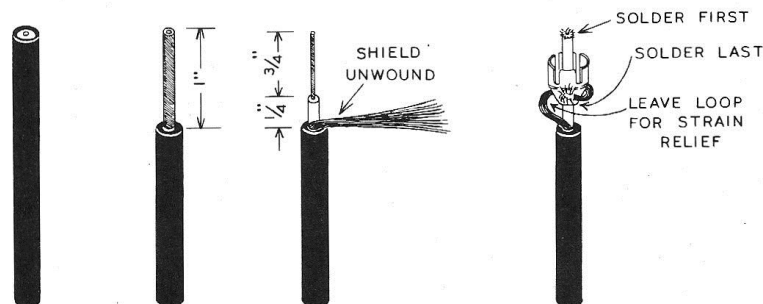

Figure 19
- () 186. Prepare a length of shielded cable as shown in Figure 19, using a phono plug at each end. Connect this cable from the TO PWR. AMP. INPUT socket on the preamplifier rear panel to the input socket on the main amplifier.